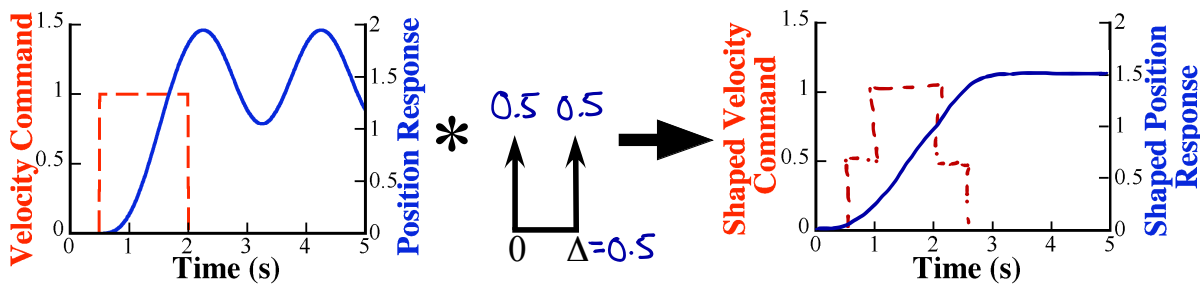

Figure 5.2: The Input Shaping Process
- c. Assuming the natural frequency is 1 Hz, design a Zero Vibration (ZV) input shaper that would eliminate vibration in this system if used to shape a reference command.
- d. Using the unshaped reference command shown in Figure 5.2: